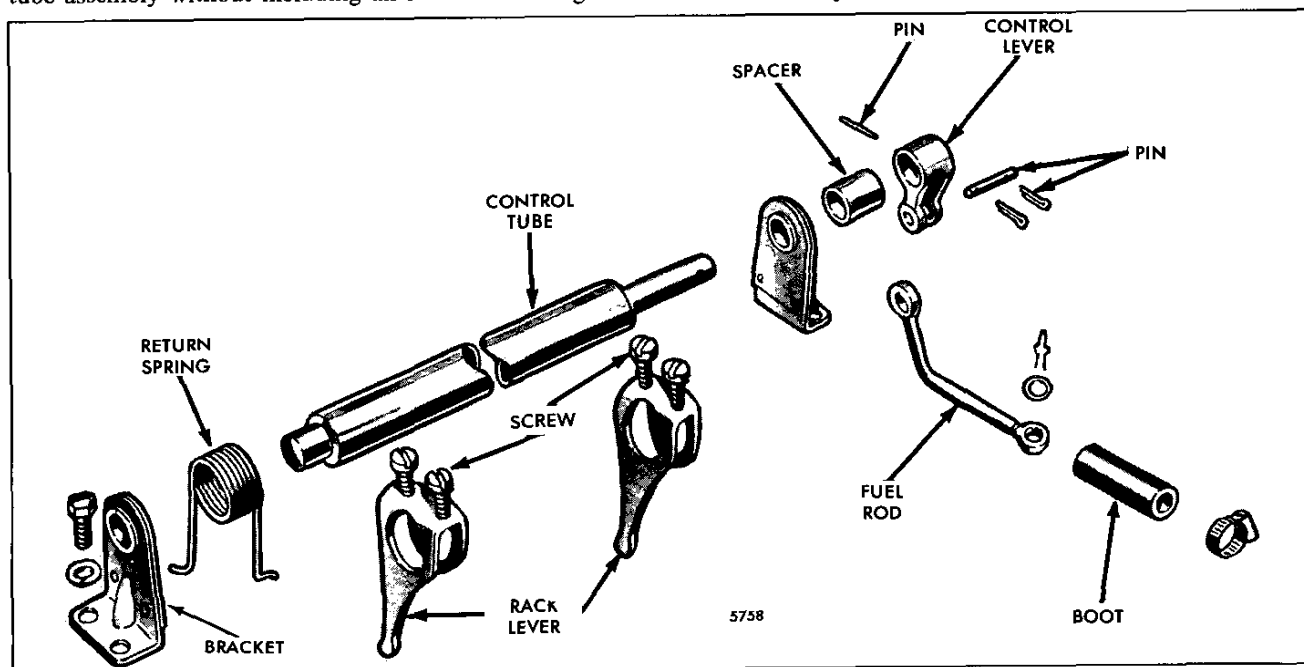

Fig. 1 - Injector Control Tube Assembly (Non-Spring Loaded - In-line Engine)
● Fig. 1 - Woodward Synchronizing Motor Mounting
Some hydraulic governors are equipped with a reversible electric synchronizing motor mounted on the governor cover (Fig. 1). This motor, used in place of a vernier control knob, permits close adjustment of the engine speed from a remote control point. This feature is especially valuable when synchronizing two generators from a central control panel.
- Woodward motors (Fig. 1) are mounted vertically on the governor covers and connected to the governor speed adjusting shaft through a short gear train.
The fuel injector control tube assembly (Figs. 1 and 2) is mounted on the cylinder head (In-line and V-53 engines) and consists of a control tube, injector rack control levers, a return spring and injector control tube lever mounted in two bracket and bearing assemblies attached to the cylinder head.
With all of the parts cleaned and inspected and the necessary new parts on hand, refer to Fig. 1, 2 or 3 and assemble as follows: